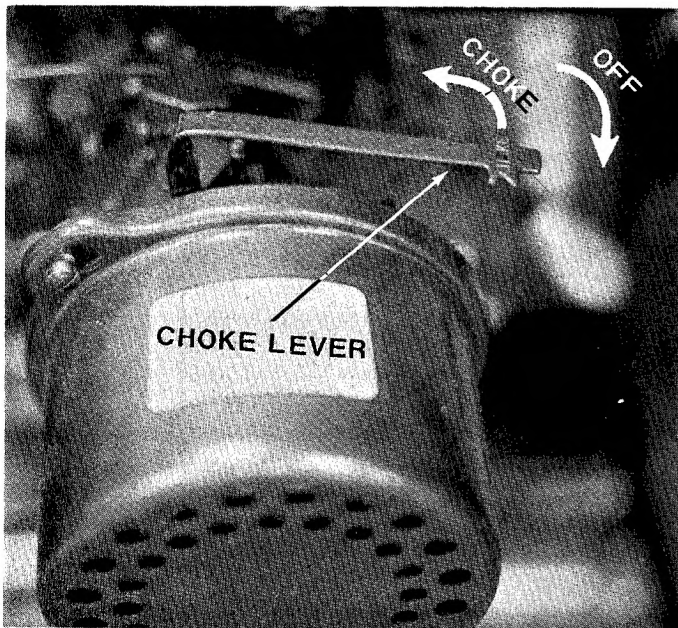

FIGURE 7
2. Move choke lever to CHOKE position. See figure 7.